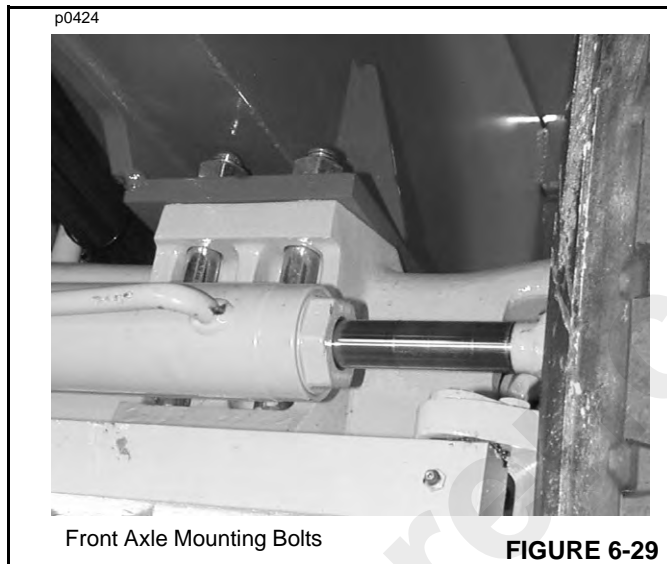

FIGURE 6-29
Torque the 1" axle mounting bolts (8) to 575 lb-ft. (782 Nm). See Figure 6-29.